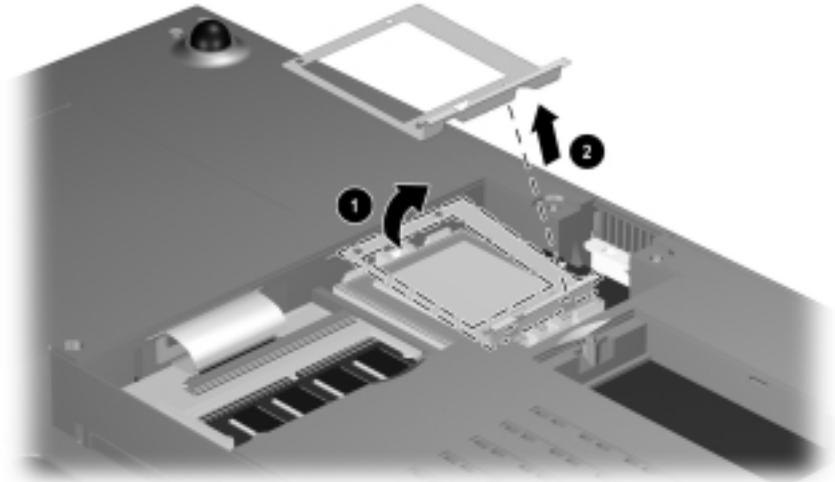

Figure 5-10. Removing the Processor Bracket
3. Swing the left side of the processor bracket up and to the right **1** (Figure 5-10).